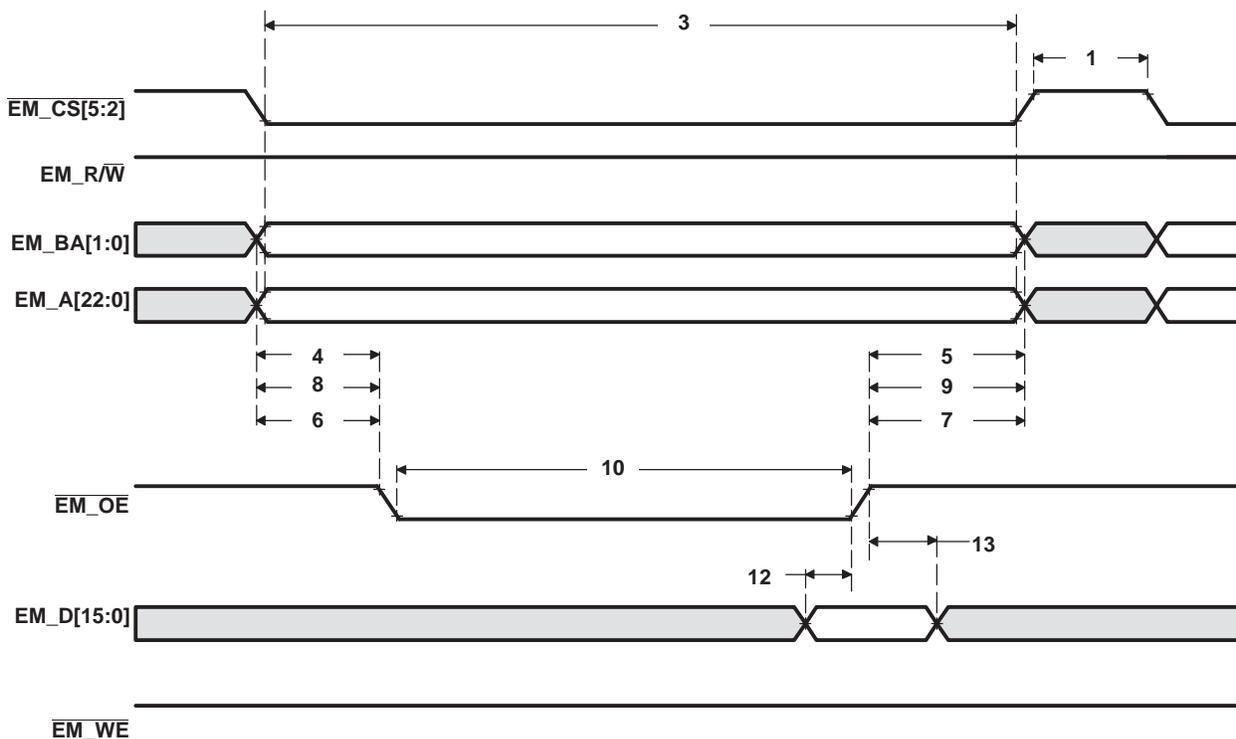
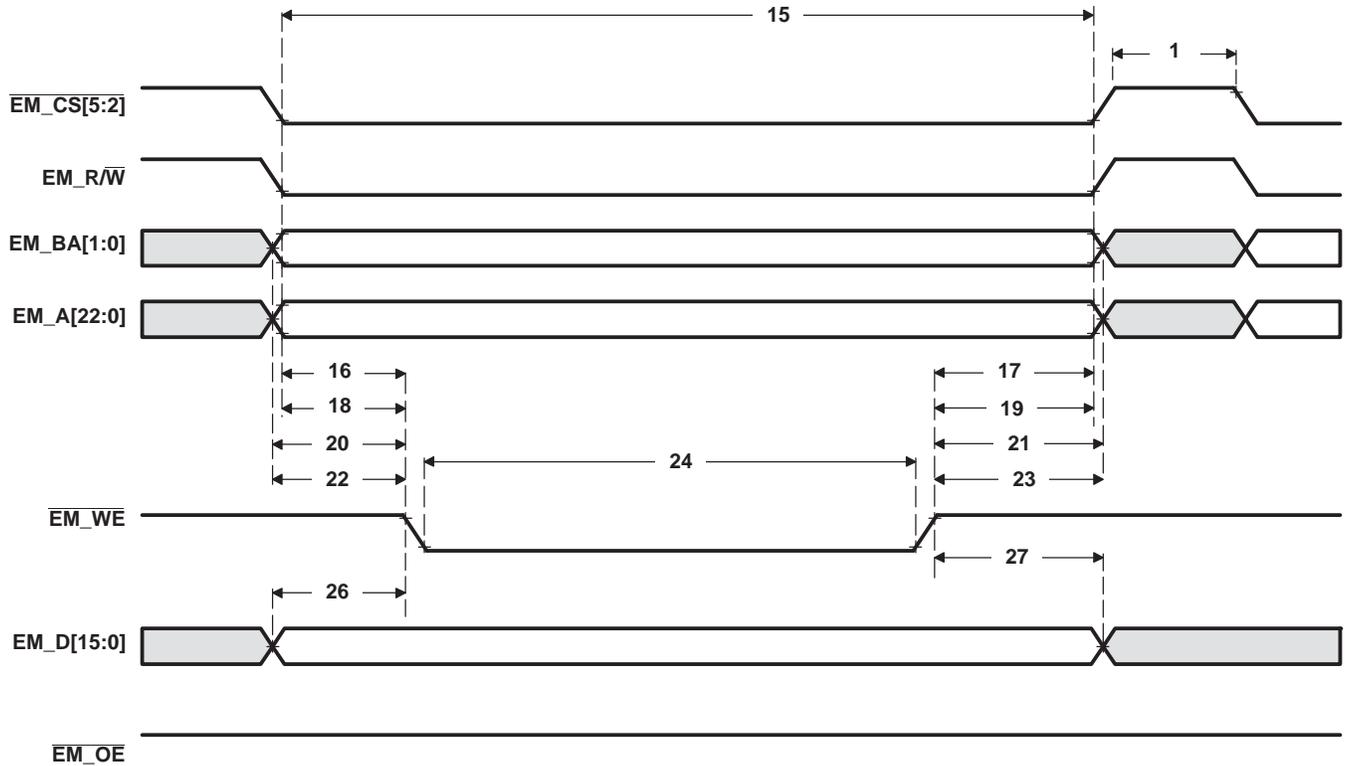

Figure 7-21. Asynchronous Memory Read Timing for EMIFA
Figure 7-22. Asynchronous Memory Write Timing for EMIF
(see Figure 7-21 and Figure 7-22)
Table 7-29. Switching Characteristics Over Recommended Operating Conditions for Asynchronous Memory Cycles for EMIFA Module^{(1) (2)} (see Figure 7-21 and Figure 7-22)
(1) RS = Read setup, RST = Read Strobe, RH = Read Hold, WS = Write Setup, WST = Write Strobe, WH = Write Hold, TA = Turn Around, EW = Extend Wait mode, SS = Select Strobe mode. These parameters are programmed via the Asynchronous n Configuration and the Asynchronous Wait Cycle Configuration registers and support the following range of values: TA[0–3], RS[0–15], RST[0–63], RH[0–7], WS[0–15], WST[0–63], WH[0–7], EW[0–1], and MEWC[0–255]. For more information, see the *TMS320DM646x DMSoC Asynchronous External Memory Interface (EMIF) User's Guide* (literature number SPRUEQ7).
(2) E = SYSCLK3 period in ns for EMIFA. For example, when running the DSP CPU at 1 GHz, use E = 4 ns.
Table 7-29. Switching Characteristics Over Recommended Operating Conditions for Asynchronous Memory Cycles for EMIFA Module^{(1) (2)} (see Figure 7-21 and Figure 7-22) (continued)